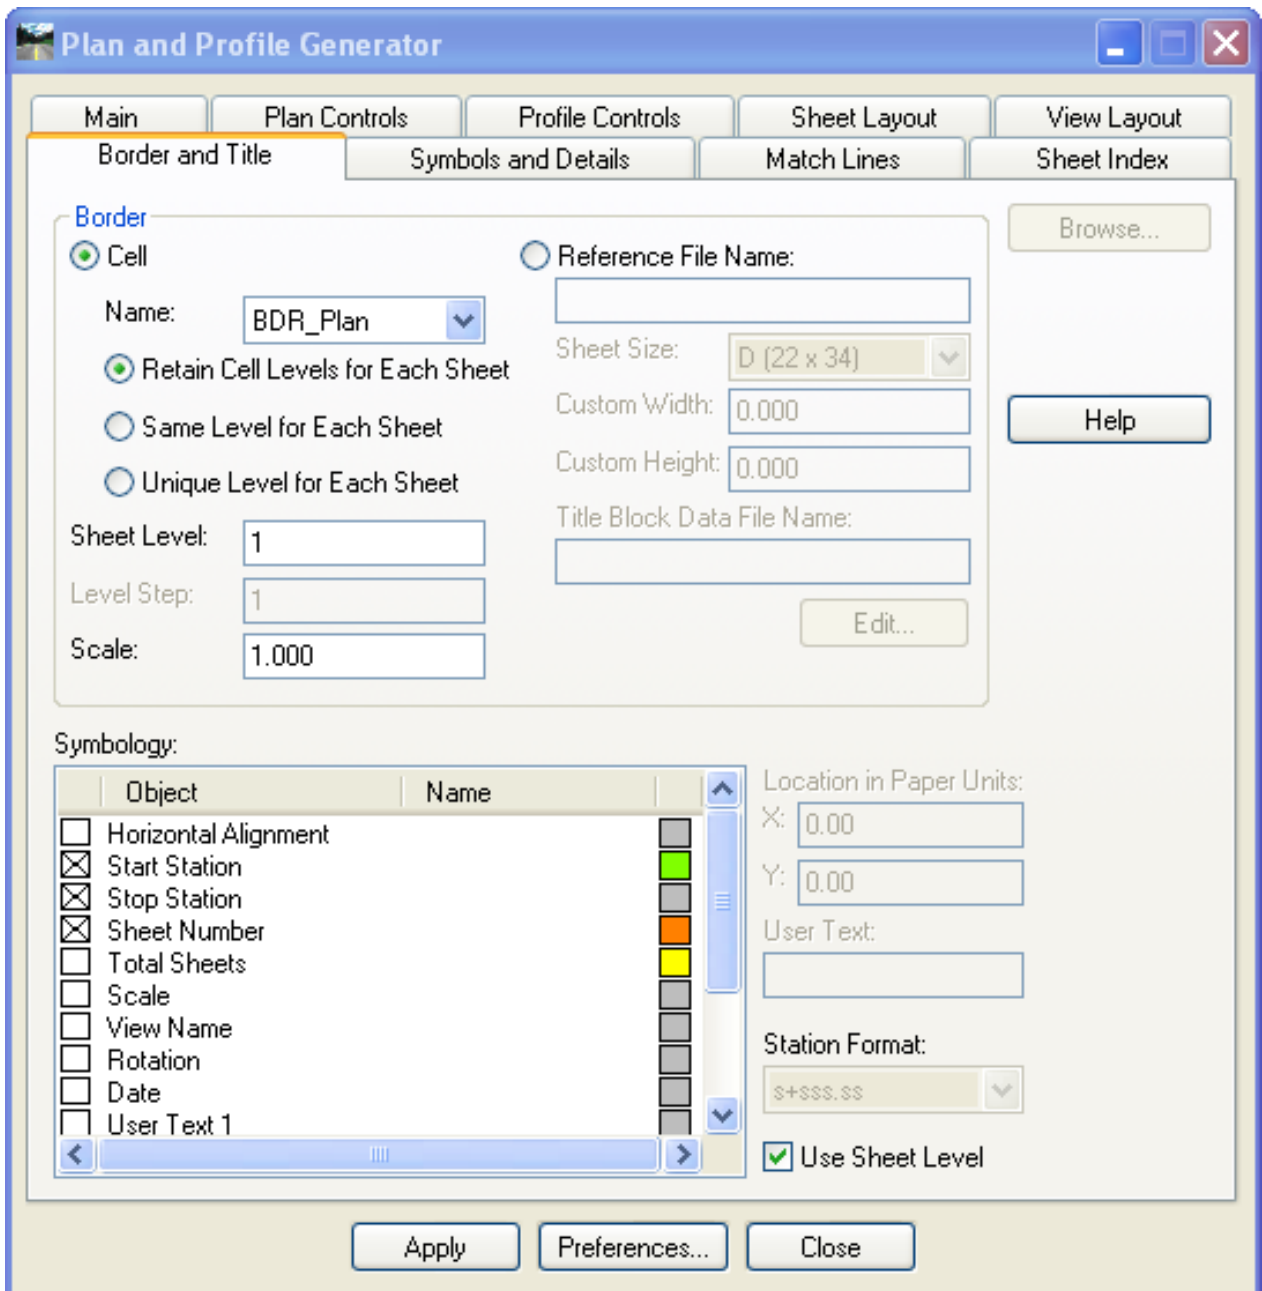

Figure 10-4 InRoads Plan and Profile Generator - Borders and Title Tab
G. Select the **Border and Title** tab. (See Figure 10-4) In the Border section, toggle on **Cell** and in the name box select **BDR_Plan**.